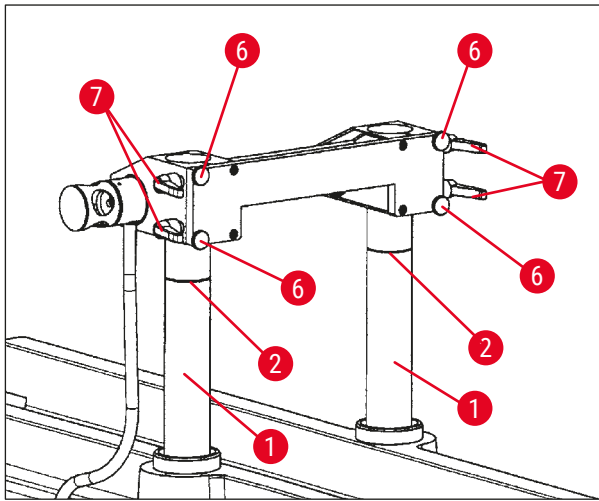

Fig. 85
- Position the knife holder with the upper edge for the groove (→ Fig. 83-2) in the support columns in the 100 mm position or all the way at the top for the 200 mm position, see (→ Fig. 85).
- Position the knife holder with the upper edge at the very top on the columns for the 200 mm position (→ Fig. 85).
- This requires putting the support columns back into the highest position (→ Fig. 85) and adjusting the knife holder to the 100 mm position as described in Chapter (→ p. 74 – 7.10.3 Knife holder height adjustment).